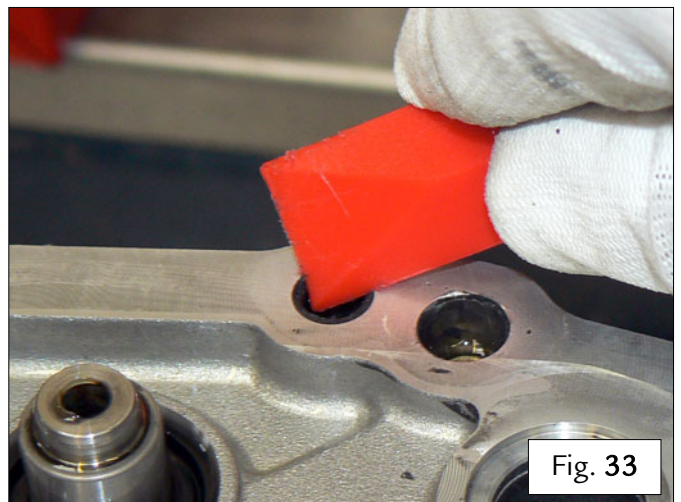

Fig. 33
- Using a Teflon spatula, remove all traces of sealant from the surfaces of the interface plate and the differential housing – Fig. 33.